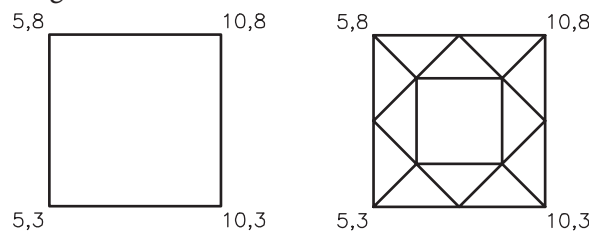

Fig. 10-5
1. Draw the square on the left in Fig. 10-5. Then use object snaps to make the additions shown on the right to produce a top view of a jeweler's new design for a cut gemstone.